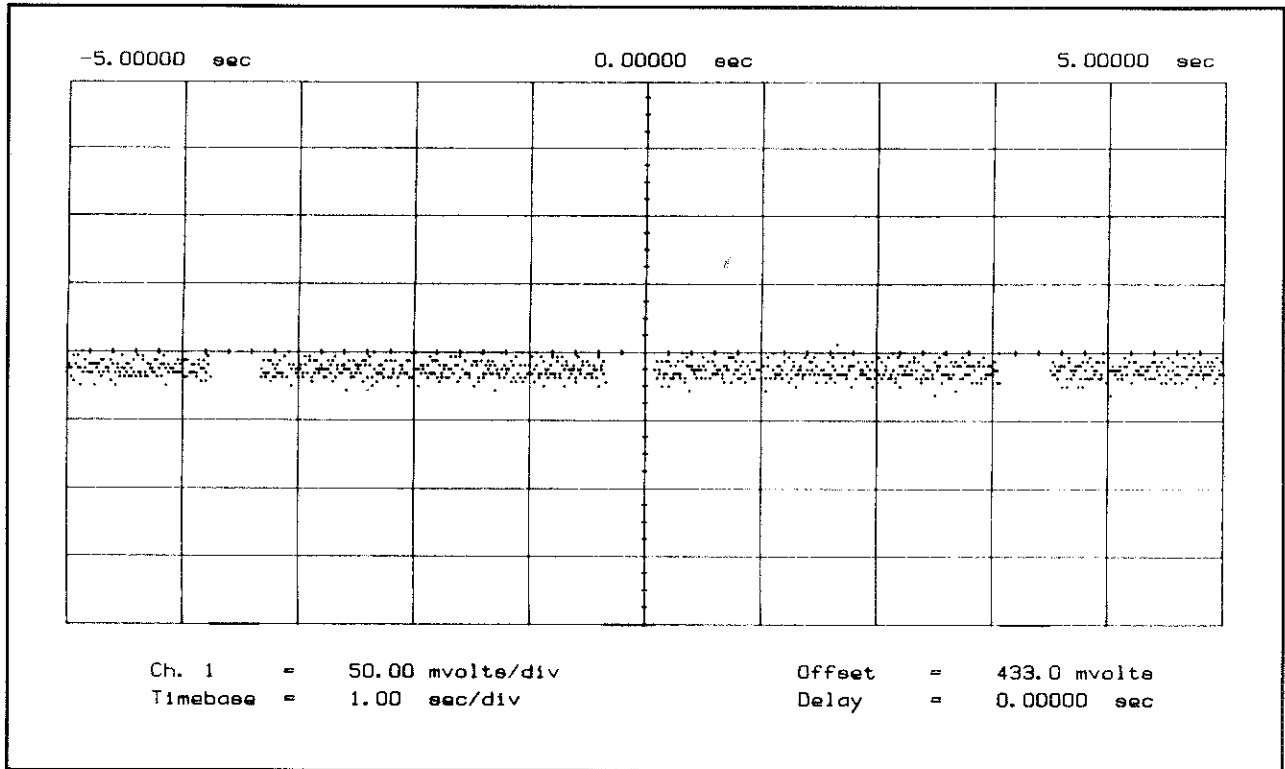

Figure 7G-7. Waveforms at A7U14(12-19)
- D. Check the address lines of A7U8 at pin 29 through 34. (See *Figure 7G-6*).
- B. Check that A7U14(12-19) goes from +5 V to 0 V every 4 to 5 seconds. Make sure that the sweep rate of the oscilloscope is set as slow as possible. Replace A7U14 if the signals are incorrect and A7U8 functions properly. See *Figure 7G-7*.